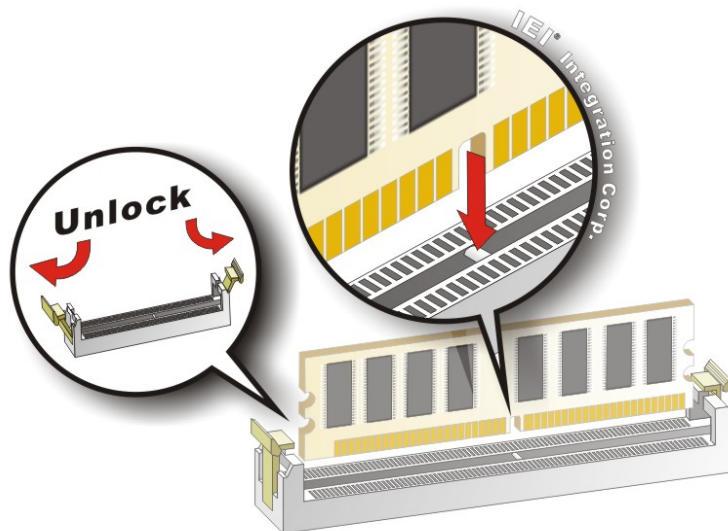

Figure 4-6: DIMM Installation
To install a DIMM, please follow the steps below and refer to **Figure 4-6**.
- Step 1: Open the DIMM socket handles.** Open the two handles outwards as far as they can. See **Figure 4-6**.
- Step 2: Align the DIMM with the socket.** Align the DIMM so the notch on the memory lines up with the notch on the memory socket. See **Figure 4-6**.
- Step 3: Insert the DIMM.** Once aligned, press down until the DIMM is properly seated. Clip the two handles into place. See **Figure 4-6**.